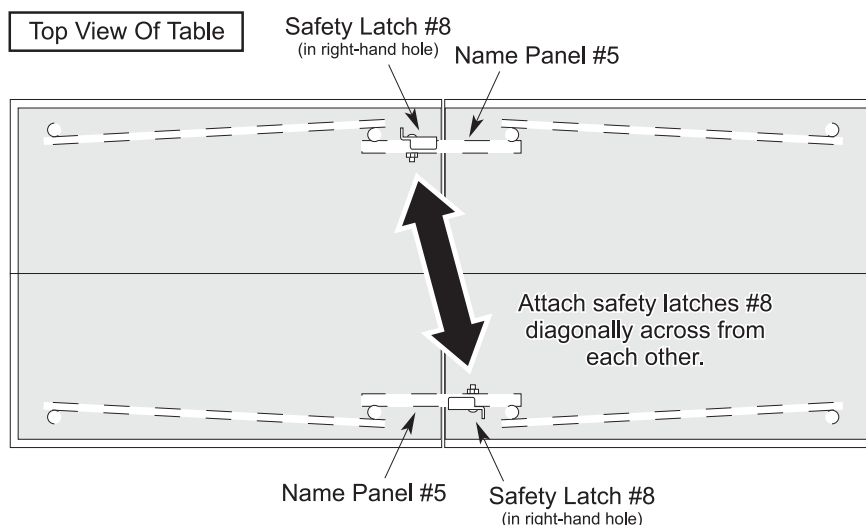

Figure 12
26. Go to the other side of the table and install the second safety latch into the right-hand hole on the other name panel #5. **NOTE: Safety latches must be attached diagonally across from each other.** See Figure 12.